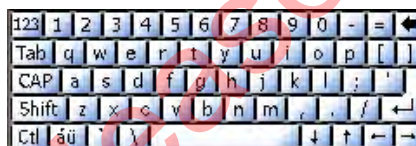

Figure 4.9 Nomad Small Keyboard
- 4 Select **Large** or **Small Keys**. See Figure 4.8 and Figure 4.9 on Page 4-14.